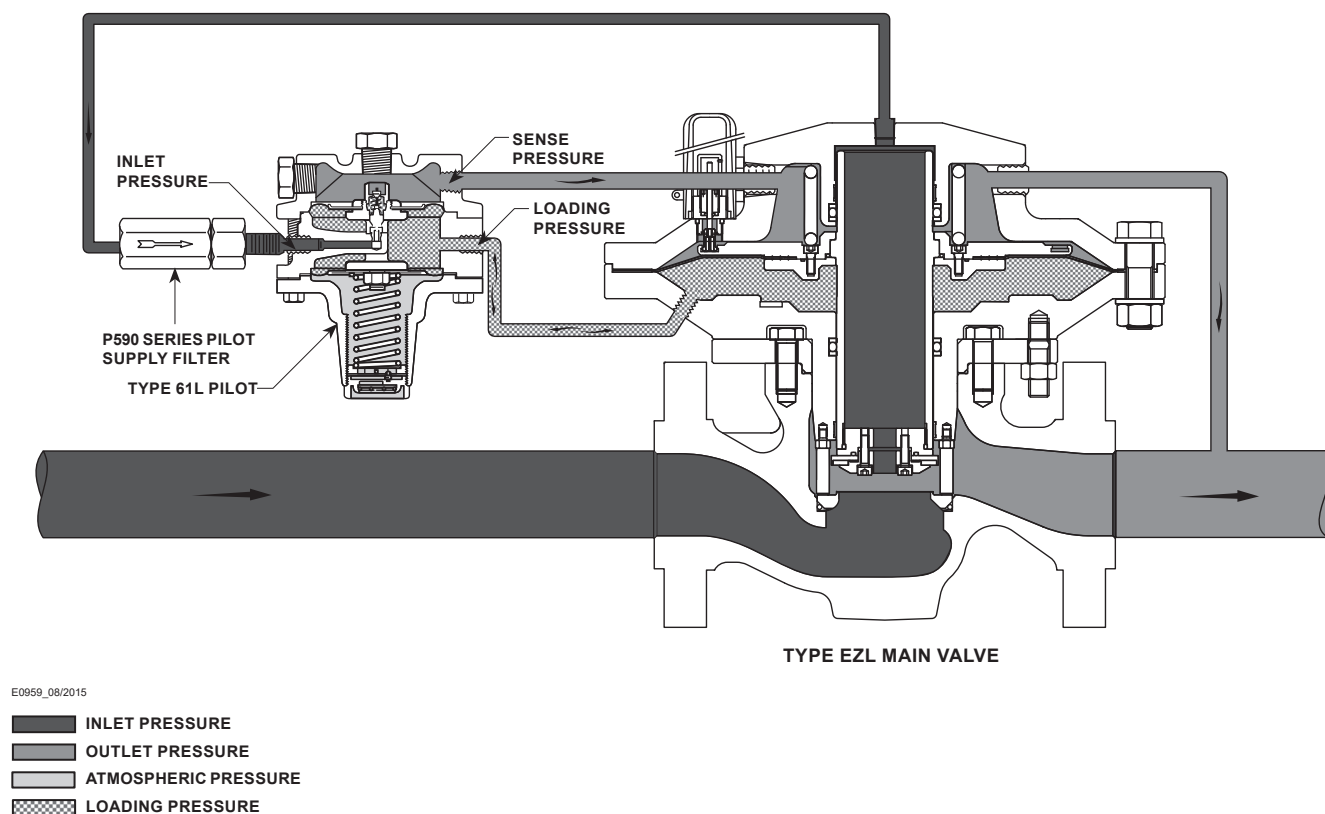

Figure 3. Type EZL with Type 61L Pilot
- Run a 3/8 in. / 9.5 mm outer diameter or larger pilot supply line from the upstream pipeline to the filter inlet as shown in Figure 3, bushing the line down to fit the 1/4 NPT filter connection. Do not make the upstream pipeline connection in a turbulent area, such as near a nipple, swage or elbow. If the maximum pilot inlet pressure could exceed the pilot rating, install a separate reducing regulator in the pilot supply line. Install a hand valve in the pilot supply line and provide vent valves to properly isolate and relieve the pressure from the regulator.